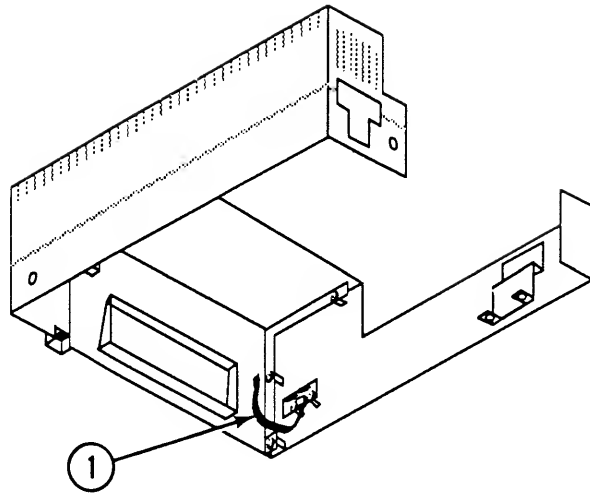

FIGURE 2
4. Lift the cover set straight up and remove it from the printer far enough to disconnect the cable (Figure 2, #1) from the status panel.